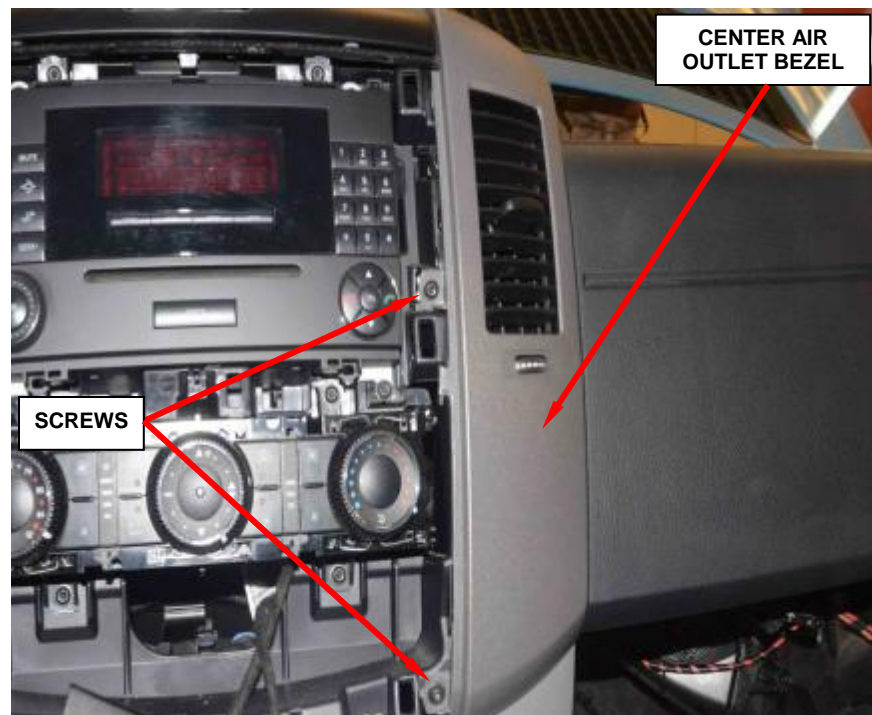

Figure 191 – Center Air Outlet Bezel
12. Remove and save the two center air outlet bezel screws and remove the bezel (Figure 191).